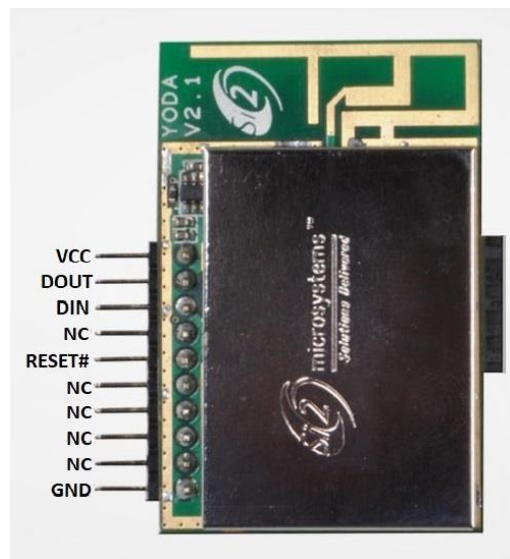

Figure 2: Yoda Pin Description
4. In “Device Manager” window, expand Ports list. You will find COM Port Number assigned to USB Adapter. [Figure 2]